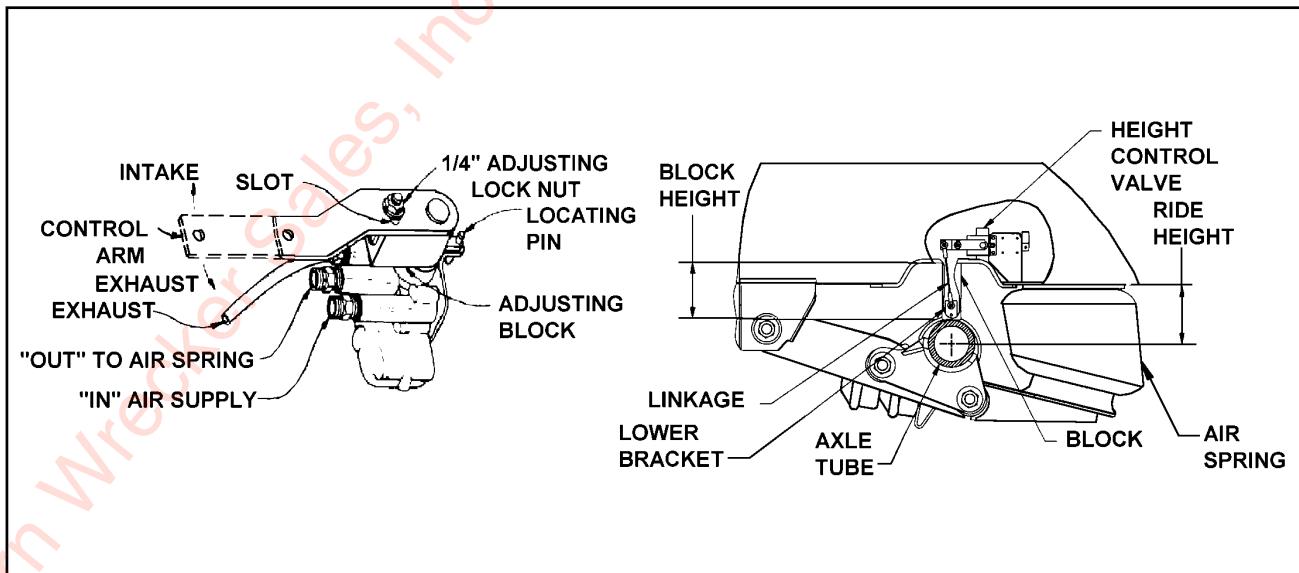

Figure 4-6 Air Ride Height Adjustment
4-6.3 Tandem Axle Air Ride Height Adjustment. (See Figure 4-6 for parts identification).
b. Disconnect linkage at the control arm and raise control arm to the "up" position, raising the trailer until a block can be placed between axle tube and undercarriage frame (See Figure 4-6).
- f. Loosen the 1/4" adjusting lock nut located on the adjusting block, allowing the control arm to move approximately 1 inch. Move the adjusting block until holes align, then insert locating pin. (See Figure 4-6).